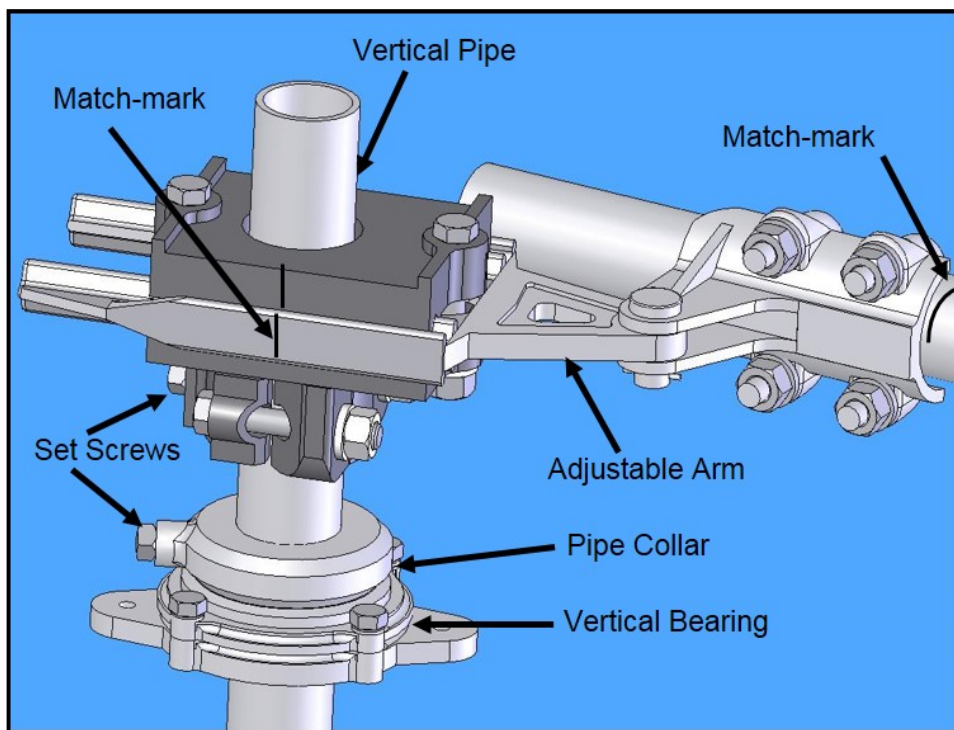
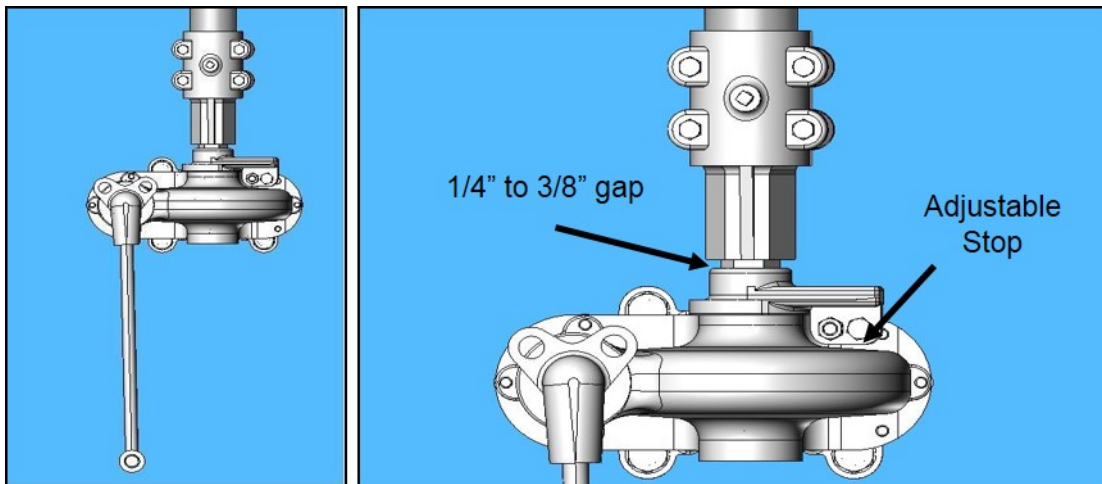

Figure 17: Typical Operating Arrangement
Figure 18: Type HOGO (High Output Geared Operator) Front View
3. Refer to the Operating Mechanism drawing, and install all mounting brackets, bearings, bushings, pipe clevises, switch operating device, adjustable arm, reach rod, and other necessary components. Refer to **Figure 17**.
▲ CAUTION The pipe collar (above the vertical bearing) must support the entire weight of the vertical operating pipe. To prevent unnecessary component damage, **Do not allow the pipe to rest on the switch operating device**. Refer to **Figure 17**.
5. After mounting all op-mech components, match-mark all clevis connections, the adjustable arm, and the switch operating devices' coupling, so that any slippage occurring during trial operations can be readily detected. Refer to **Figure 17**.
- 2.1.2. The weight of the vertical operating pipe should be supported by pipe collar (**Figure 17**) by maintaining the 1/4 - 3/8" gap (**Figure 18**).
- 2.1.3. When the switch is properly adjusted the operator handle should hang freely in both the open and closed positions to permit the use of a customer supplied padlock. Refer to **Figure 18**.
4.3. If the switch **does not** fully open before the operator reaches the fully open position, the adjustable arm radius is too short. Close the switch, match-mark the adjustable arm and the pipe clevis, and loosen the bolts on the adjustable arm and pipe clevis. **Lengthen the adjustable radius arm approximately 1/4". Allow the pipe clevis to reposition itself the same 1/4".** Refer to **Figure 17**. Test operation and readjust as necessary.
4.4. If the switch is fully open before the operator reaches the fully open position, the adjustable arm radius is too long. Close the switch, match-mark the adjustable arm and the pipe clevis, and loosen the bolts on the adjustable arm and pipe clevis. **Shorten the adjustable radius arm approximately 1/4". Allow the pipe clevis to reposition itself the same 1/4".** Refer to **Figure 17**. Test operation and readjust as necessary.